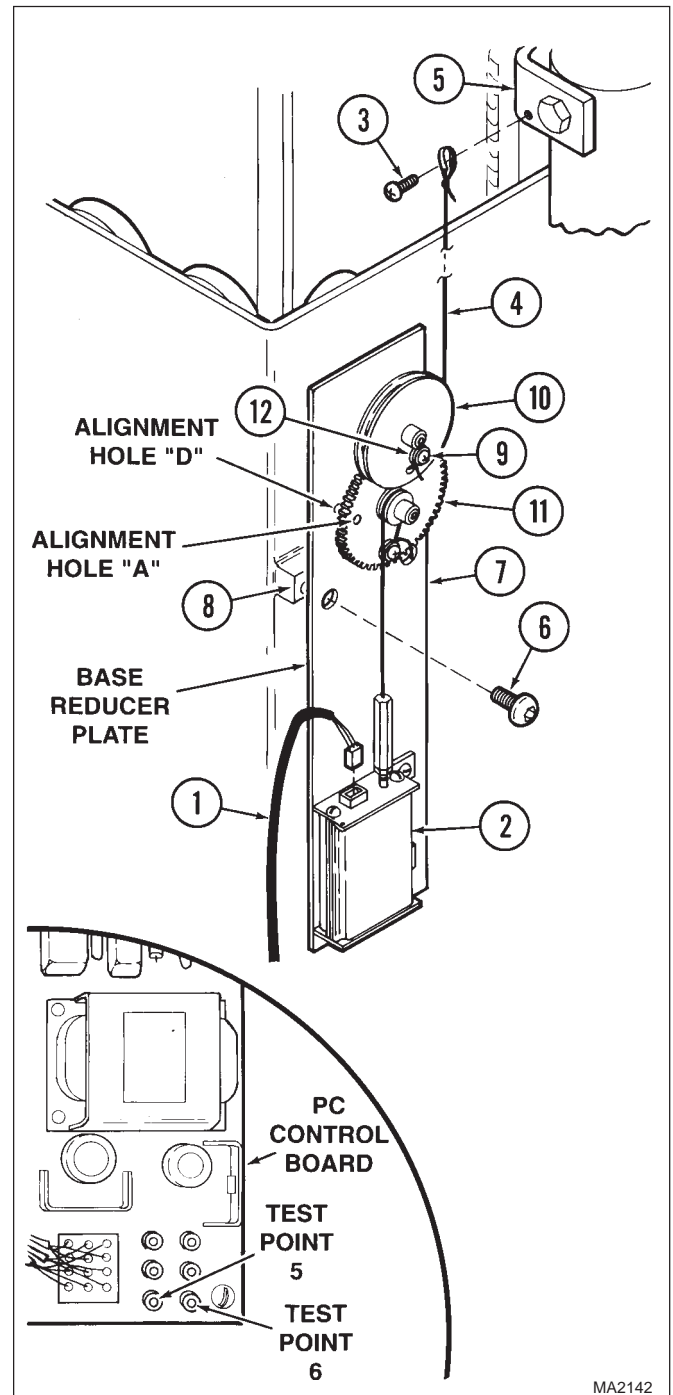

Figure 4-16. Base Reducer Removal / Installation
- (1) While pressing the Emergency COMPUTER CONTROL OVERRIDE SWITCH, press the TABLE UP button until the base function reaches the end of its travel.
- (2) Lower the bellows assembly (Refer to para 4-3).
- (3) Disconnect wire harness (1, Figure 4-16) from base transducer (2).
- (4) Remove screw (3) and cable assembly (4) from middle slide (5).
- (5) Remove two screws (6) and base reducer assembly (7) from outer slide (8).
- (1) Loosen screw (9, Figure 4-16) which secures cable assembly (4) to base capstan (10).
- (5) Install loose end of cable assembly (4) on middle slide (5) and secure with screw (3).
- (6) Connect wire harness (1) to base transducer (2).
- (7) Remove electrical cover (Refer to para 4-4).
- (8) Plug the positive probe of the multimeter into Test Point 5 and the negative probe of the multimeter into Test Point 6 of PC control board. See Figure 4-16.
- (9) Hold base output gear (11) stationary and remove punch or rod from alignment holes. Then rotate base output gear (11) in a clockwise direction until the multimeter reads 4.5 VDC \pm 0.25 VDC. Wrap bottom end of cable assembly (4) around screw (9) and in between two washers (12). Tighten screw (9), ensuring that the multimeter reading does not change.
- (10) Refer to Figure 4-16 and check the cable routing. If incorrect, correct and repeat step 9.